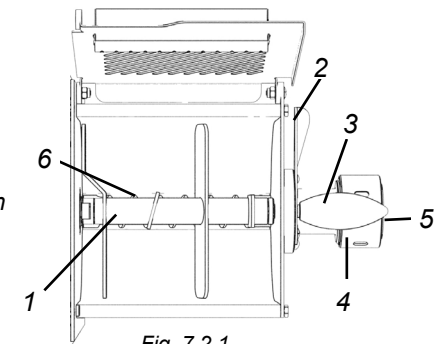

Fig. 7.2.1
1. Put the blade "1" in the position shown in Fig. 7.2.1.
**WARNING!** If the blade is not locked in position as shown in fig. 7.2.1 it **cannot** be removed.